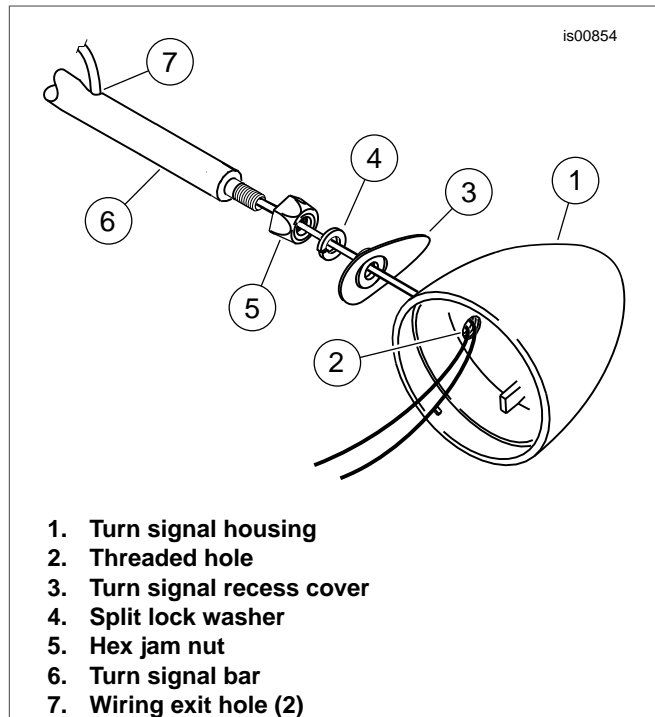

Figure 4. Rear Turn Signal Assembly to Bar
14. See Figure 4. Thread a jam nut (5) onto one end of the turn signal bar (6), and place a split lock washer (4) onto the threads at the same end of the bar.
- b. (see Figure 4) through the **threaded** hole (2) in the housing (1) from the inside.
- c. Position the recess cover (3) against the recess in the turn signal housing, with the wires coming through the hole.
- d. Insert the wires into the end of the turn signal bar (6) that has the jam nut and lock washer, and out through the oblong wire hole a short distance from the end of the bar.